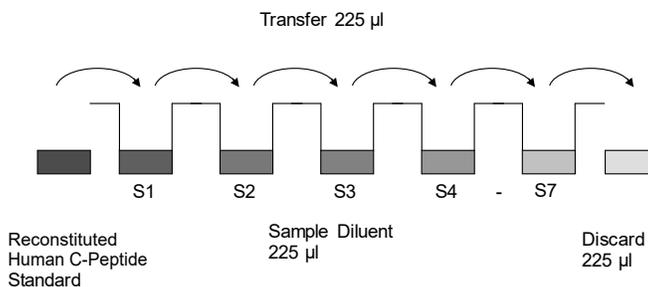

Figure 7 Dilute standards - tubes
5. Repeat serial dilutions 5 more times thus creating the points of the standard curve (see Figure 7).